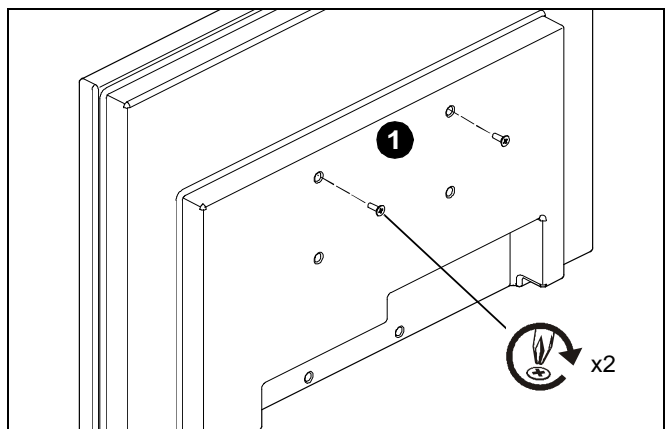

Figure 4
1. Start two M4 x 8mm Phillips pan head screws (included in hardware kit) into upper mounting holes in display back. (See Figure 4)